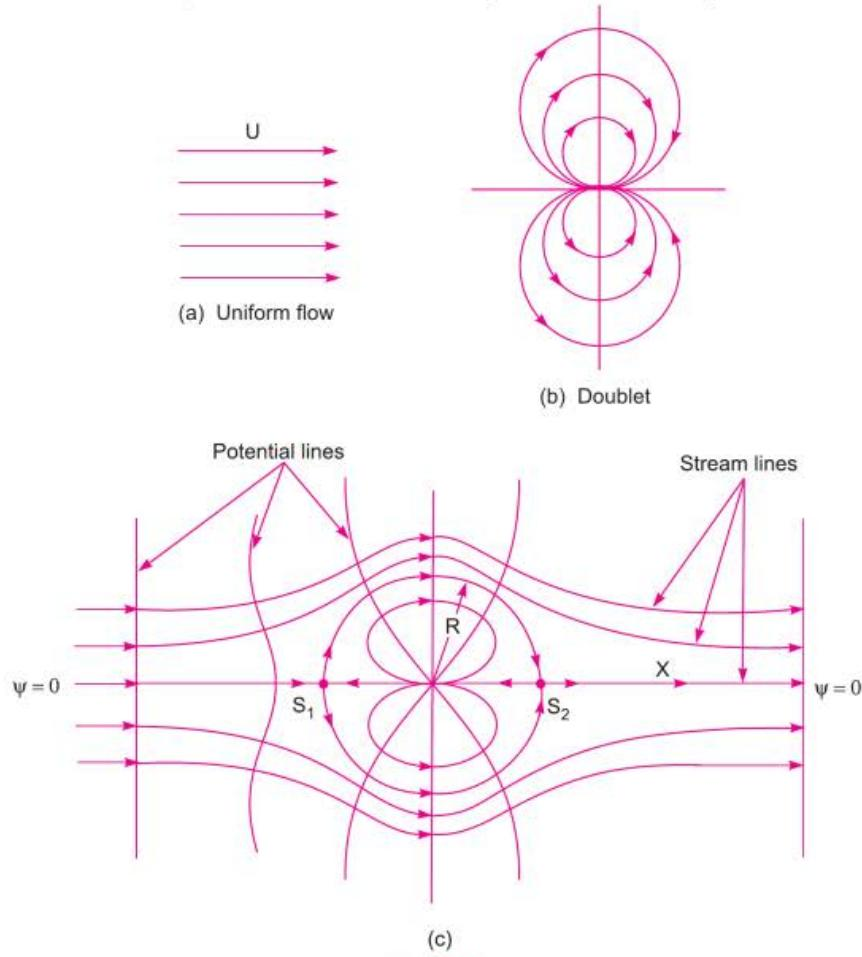

Fig. 5.53
5.17.5 A Doublet in a Uniform Flow (Flow Past a Circular Cylinder). Fig. 5.53 (a) shows a uniform flow of velocity U in the positive x -direction and Fig. 5.53 (b) shows a doublet at the origin. Doublet is a special case of a source and a sink combination in which both of equal strength approach each other such that distance between them tends to be zero. When the uniform flow is flowing over the doublet, a resultant flow will be obtained as shown in Fig. 5.53 (c). This resultant flow is known as the flow past a Rankine oval of equal axes or flow past a circular cylinder.